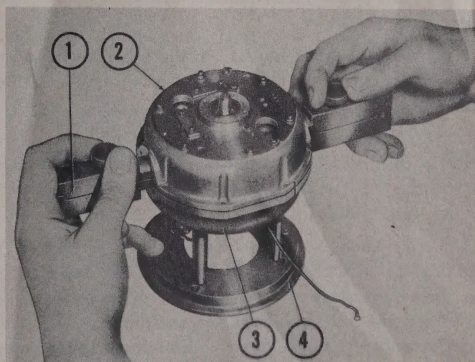

Figure 178 — Separating Halves of Rotor Case
2. (See figure 178.) Insert rotor case spreaders (1) into bearing recesses on each side of case; separate the two halves (2 and 3) of the rotor case.